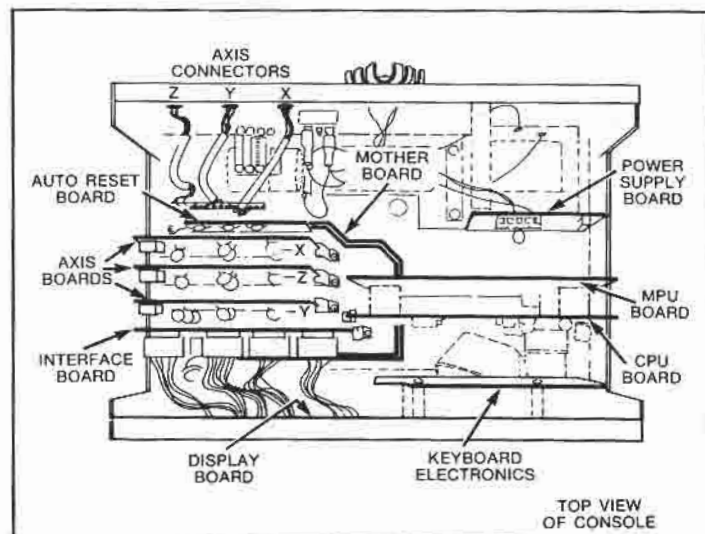

Figure 8-1. Top-Inside of PRO for Parts Identification
<p>4. Inadequate +5VDC.</p> <p>5. A short in the cable connecting the reading head to the console.</p>	<p>For qualified electronic technician only; Check +5V D.C. (must be <math>+5.1V \pm .1V</math> on pin C of axis connector. See Figure 8-1).</p> <p>Disconnect the reading head cable from the console, replace reading head cable assembly (see Reading Head Replacement in this section.)</p>
4. Loose wire, component or board connection.	Disconnect power cord, remove console cover, and check input cables and Auto Reset switch connector for proper connections. Unplug and reconnect Auto Reset board (see Figure 8-1). Check switch operation.